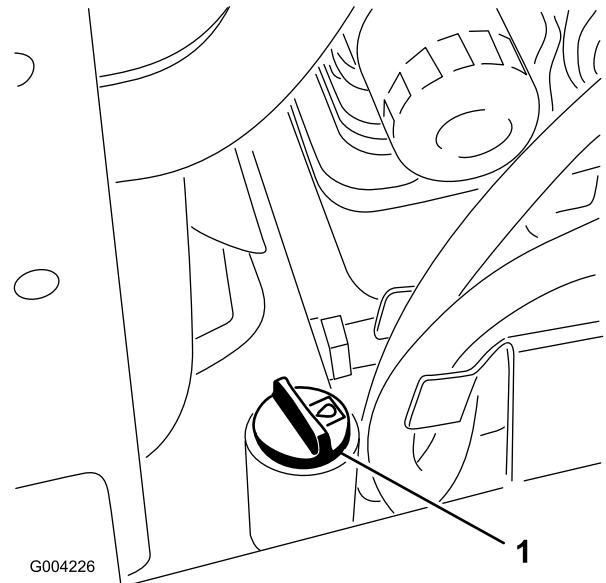

Figure 59
5. Clean the area around the filler neck of the hydraulic tank (Figure 59).